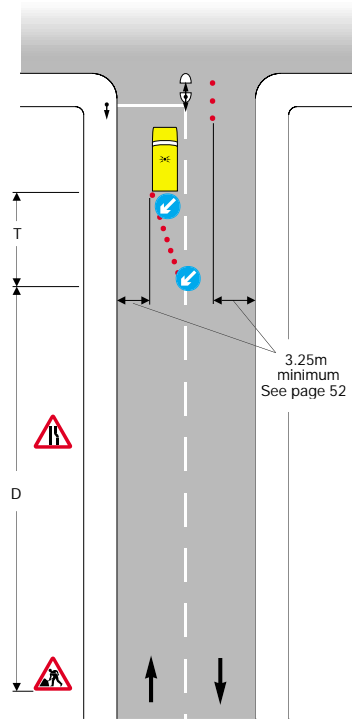

Figure 2
- Figure 2 : Work at an island signal when a works vehicle is present, and its operating roof-mounted amber beacon can be seen clearly.